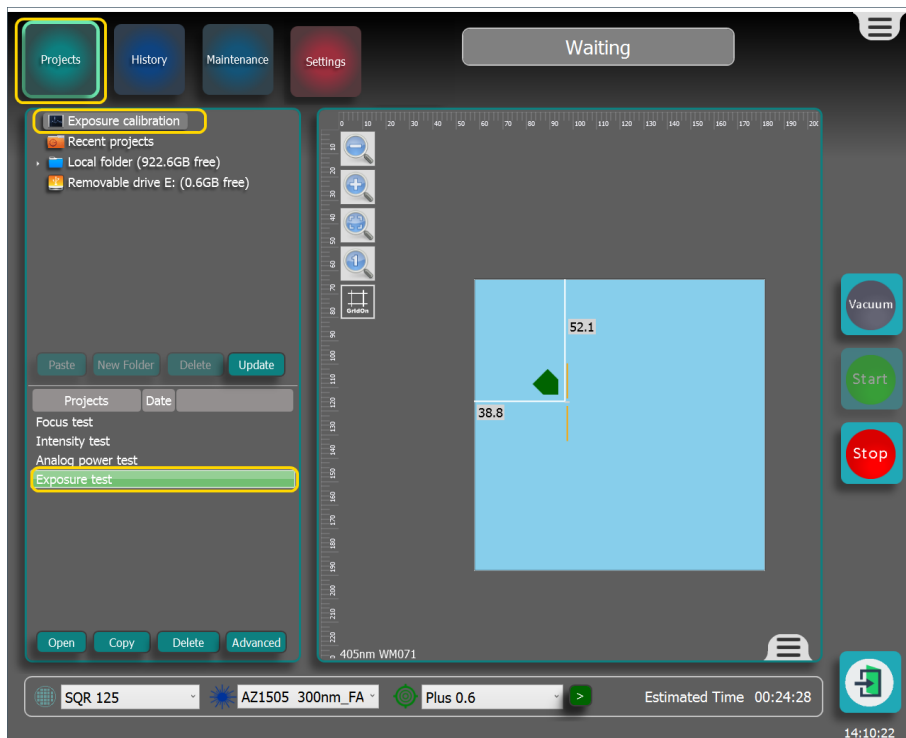

Figure 3-68 Starting the Exposure Test
2. To start the Exposure Test, select **Projects**, see Figure 3-68.